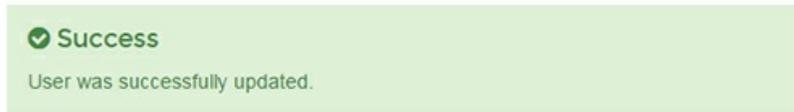

FIGURE 25
25. The following message will confirm when you have updated your information successfully. See Figure 25.